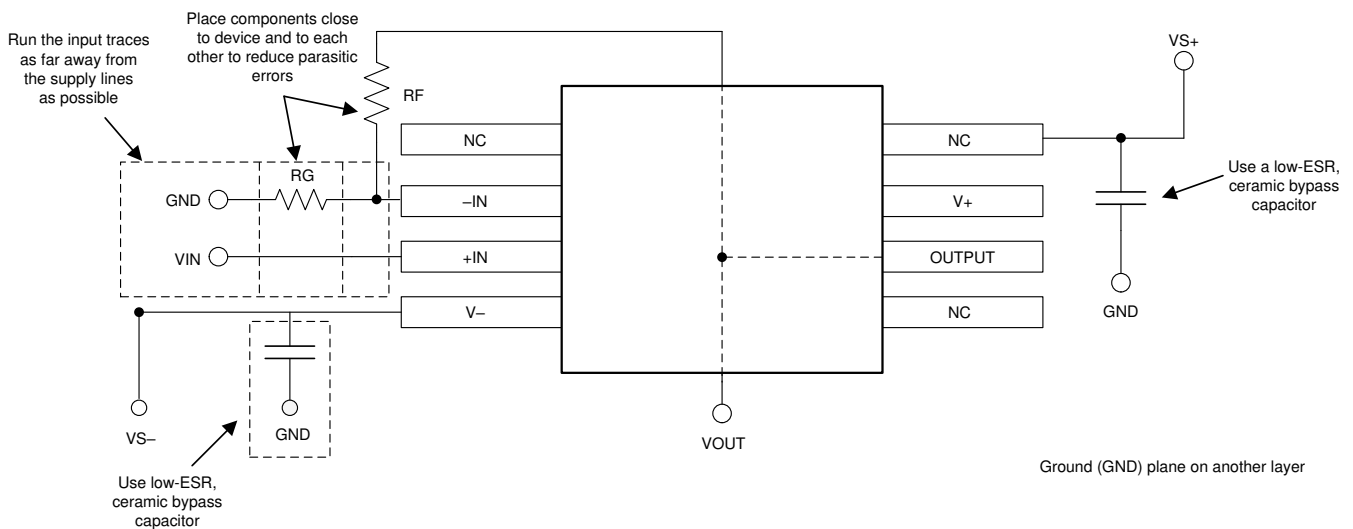

Figure 7-5. Operational Amplifier Board Layout for Noninverting Configuration
- Place the external components as close to the device as possible. As shown in Figure 7-5, keeping RF and RG close to the inverting input minimizes parasitic capacitance.